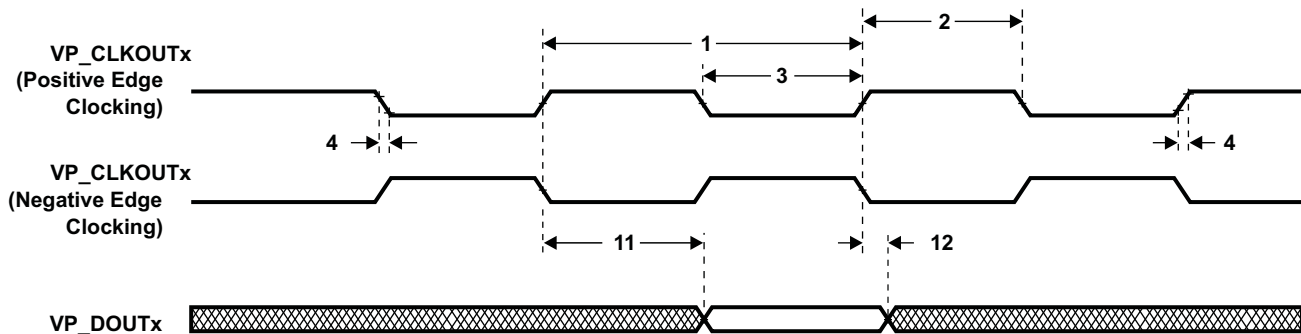

**Figure 6-66. VPIF Channels 0/1 Video Capture Data and Control Input Timing**
**Table 6-98. Timing Requirements for VPIF Channels 0/1 Video Capture Data and Control Inputs (see Figure 6-66)**